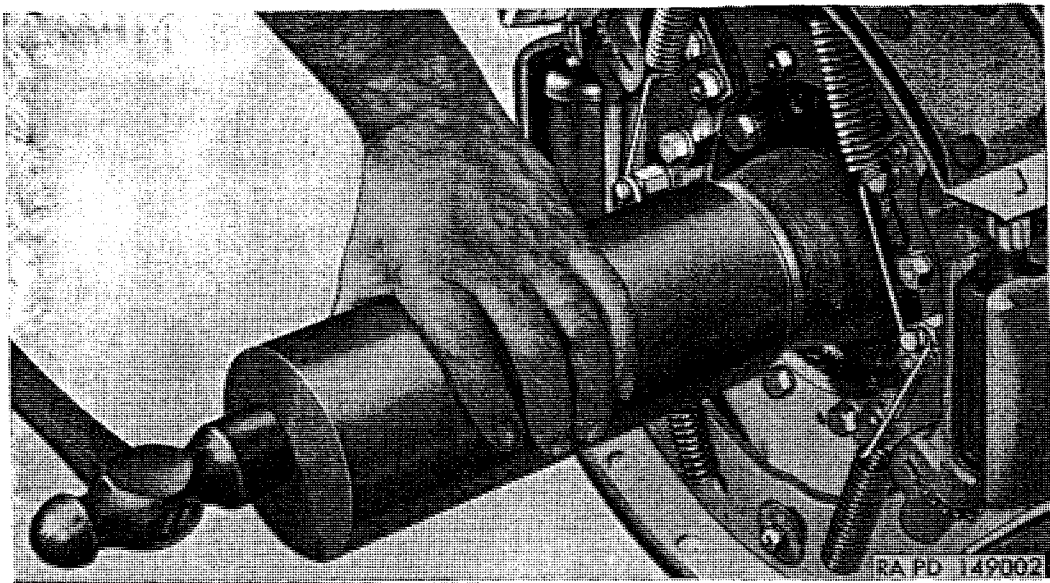

Figure 273. Installing oil seal sleeve (rear shown) using replacer B7950063.
- (1) Use ball peen hammer and tap entire circumference of outer surface of oil seal sleeve. Peening of this surface will cause metal in sleeve to stretch until sleeve can be removed from steering knuckle (front) or axle housing (rear).
- (2) Install new sleeve on steering knuckle or axle housing, driving it into place with oil seal sleeve replacer B7950063 (fig. 273). Replacer properly positions sleeve with outer edge flush with bearing shoulder on steering knuckle or axle housing.